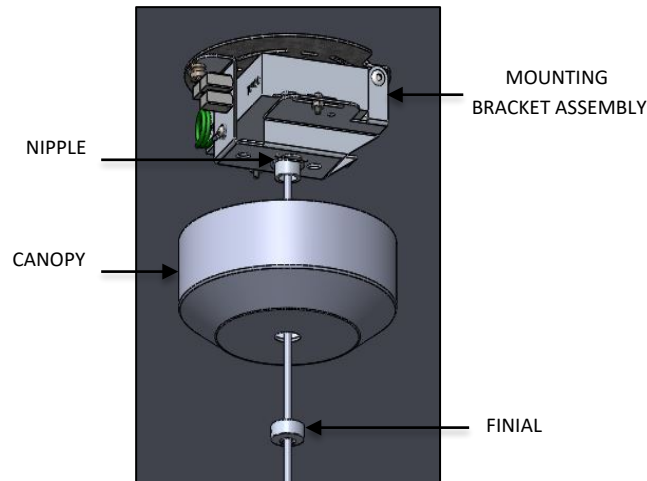
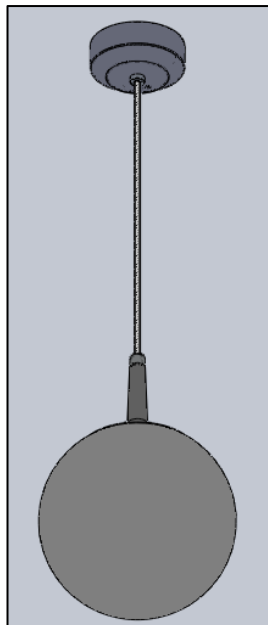

FIG. 14 – FINIAL INSTALLATION
FIG. 15 - COMPLETED INSTALLATION OF EAU PENDANT
7. Make wire connections between Building Supply and Fixture Cord inside the junction box (by others) in accordance with the National Electrical Code and all applicable Local and State codes. See WIRE LABEL TABLE and WIRE DIAGRAM shown in FIG. 14 and FIG. 15 for wire connections.
9. Raise CANOPY and secure to ceiling by threading the FINIAL to the NIPPLE (in MOUNTING BRACKET ASSEMBLY) as shown below in FIG. 14.